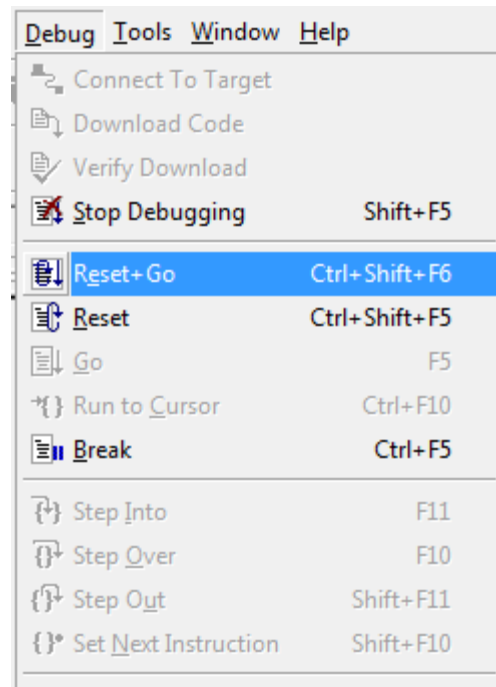

Figure 11. Select **Reset+ Go** from the **Debug** Menu
13. To run the application, select **Reset+Go** from the **Debug** menu, as indicated in Figure 11. As a result, LEDs D2, D3, and D4 will blink in sequence.